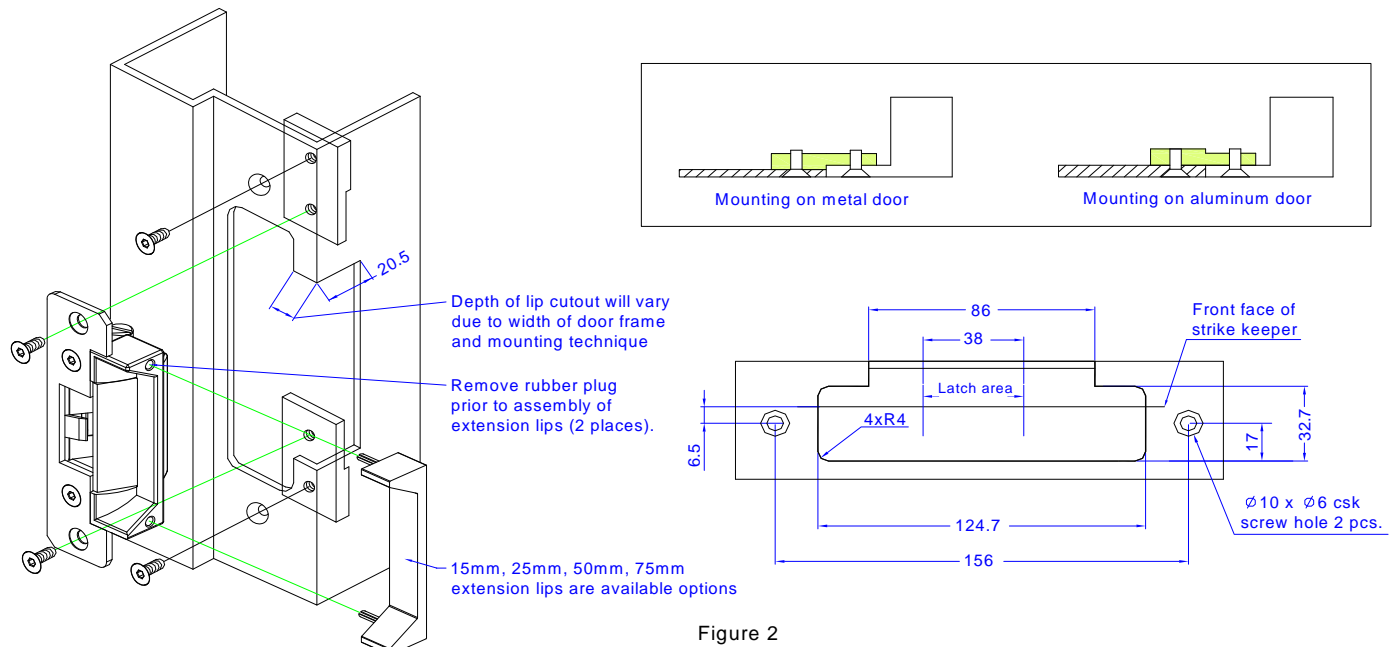
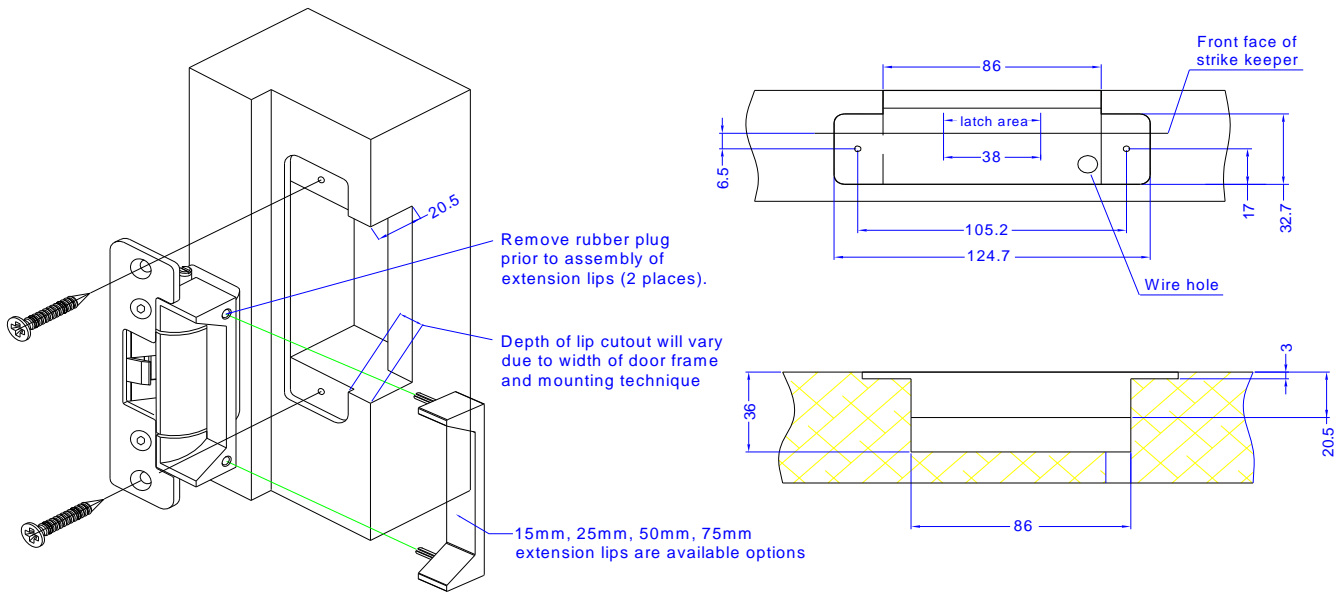

Figure 2
Figure 3
- 1). For aluminum or metal door frame brackets are supplied for assembly, refer to Figure 2. For timber door frame refer to Fig. 3. mark and drill the hole sizes as indicated on Figure 2 and Figure 3.